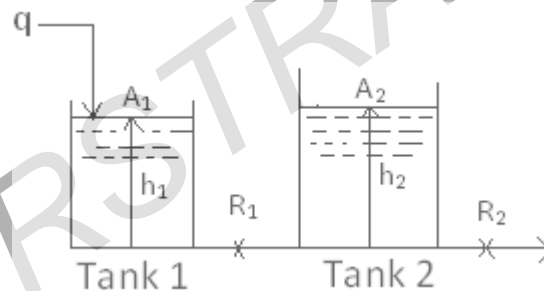

Figure 1:
- Two tanks are connected in an interacting fashion as shown below figure 1: